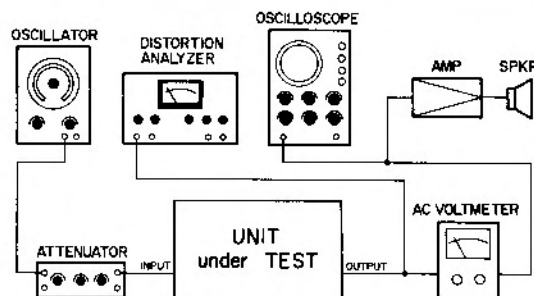

Fig. 2-20. Distortion Measurement Set-Up
1. Connect test equipment as shown in Fig. 2-20.